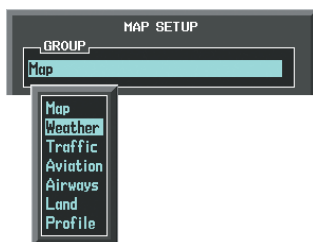

Figure 6-7 Navigation Map Page Setup Menu
- 4) Turn the small **FMS** Knob to select the 'Weather' Group and press the **ENT** Key (Figure 6-7).